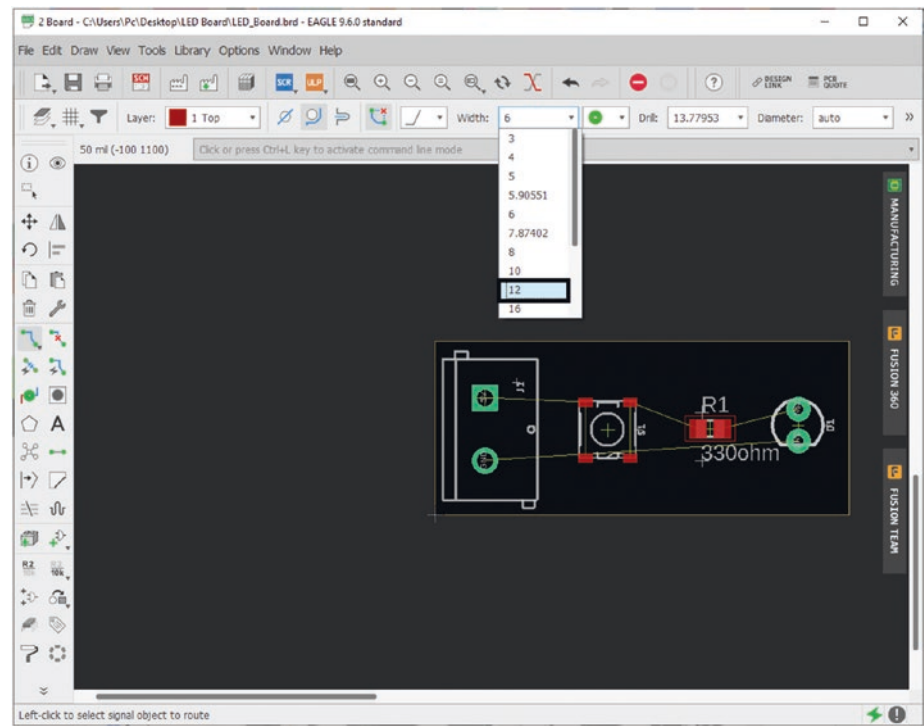

Figure 5-70. Select 12mil route
19. At the top, select 12 from the “Width:” drop-down menu, or you can just enter “12.” See Figure 5-70.